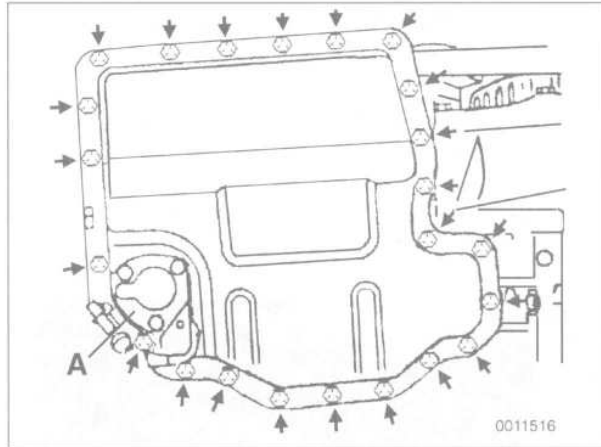

Fig. 8. Oil pan lower section mounting bolts (arrows) on M60 engine. Oil level sensor shown at A.
- Remove oil pan lower section. See Fig. 8.